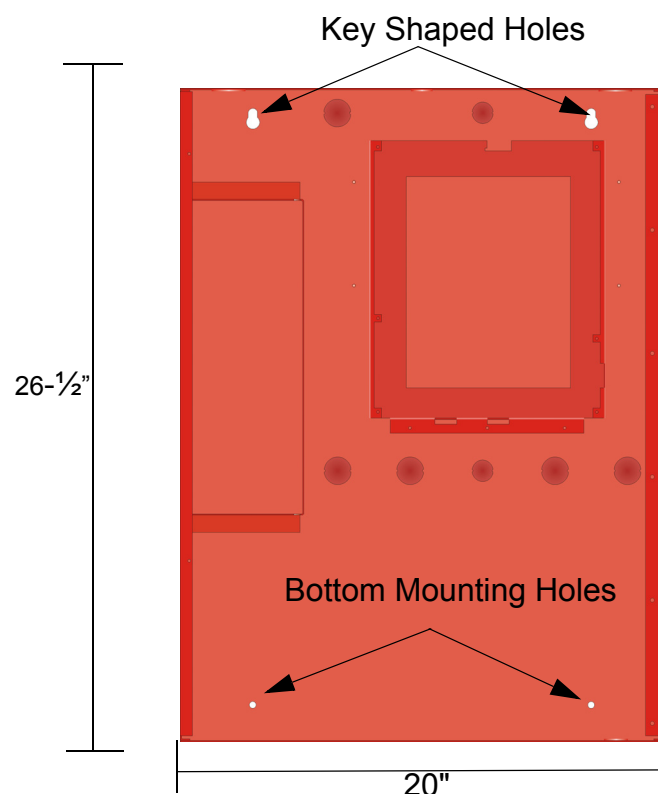

Figure 3-1 Cabinet Mounting Holes
The Cabinet can be mounted on the wall surface by using the mounting holes in the back of the cabinet (see Figure 3-1).
1. Insert two screws level with each other, 14" apart for the top cabinet key shaped holes. See Figure 3-1.